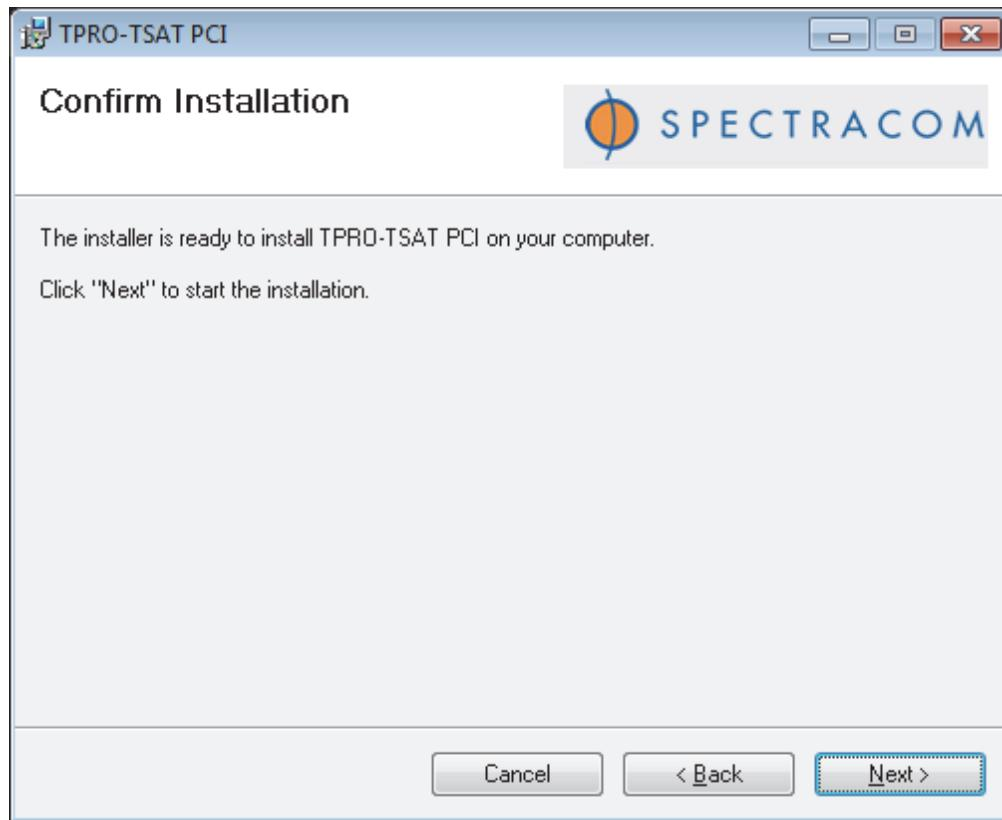

Figure 5-32. TPRO-TSAT PCI Confirm Installation Window
5. Select **Next** at the TPRO-TSAT PCI Confirm Installation screen as shown in Figure 5-32.